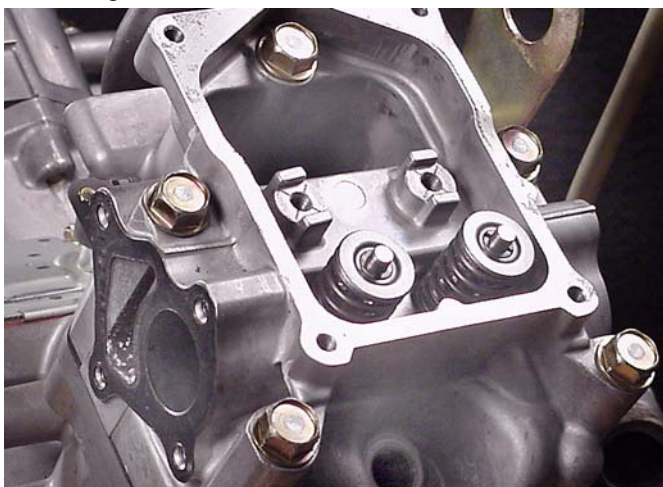

Fig. 56
3. Unscrew 5 head bolts and remove cylinder heads, Fig. 56.